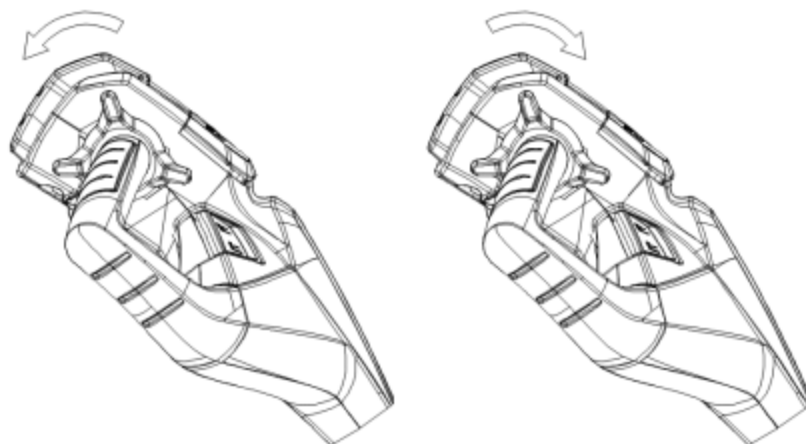

Fig.3
- Rotate the accelerate knob, make the direction same as the truck movement, figure 3